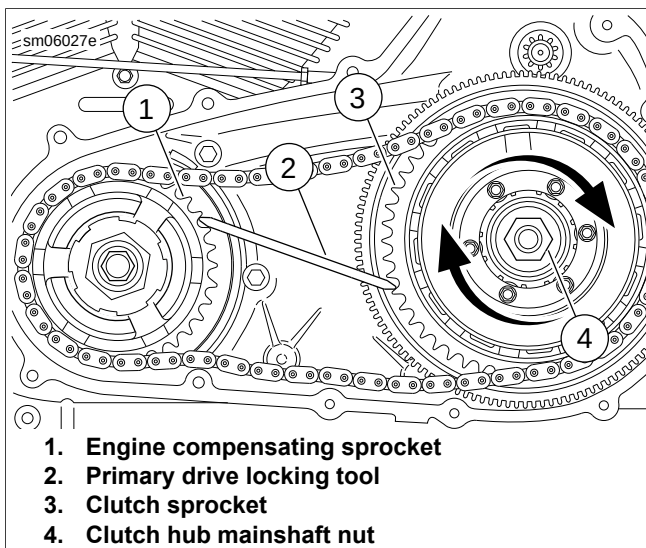

Figure 5-7. Removing Clutch Hub Mainshaft Nut
10. See Figure 5-7. Place the PRIMARY DRIVE LOCKING TOOL (Part No. HD-47977) between the teeth of the engine and clutch sprockets as shown.